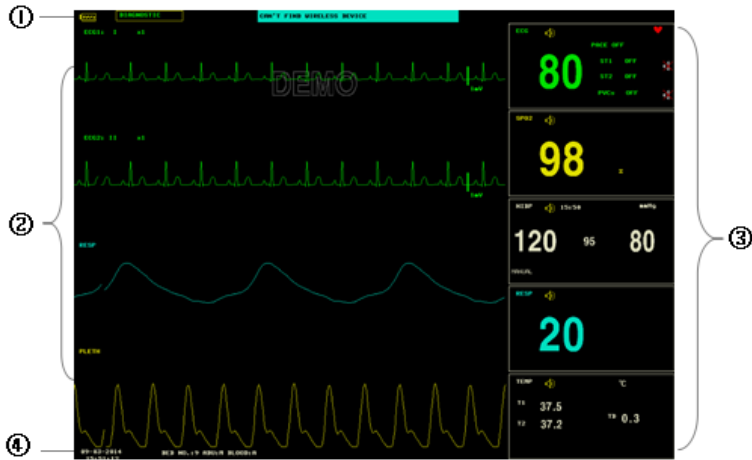

Figure 1-1 Main Display
The screen is divided into three areas(Figure 1-1): Information area①, waveform area②, parameter area③.